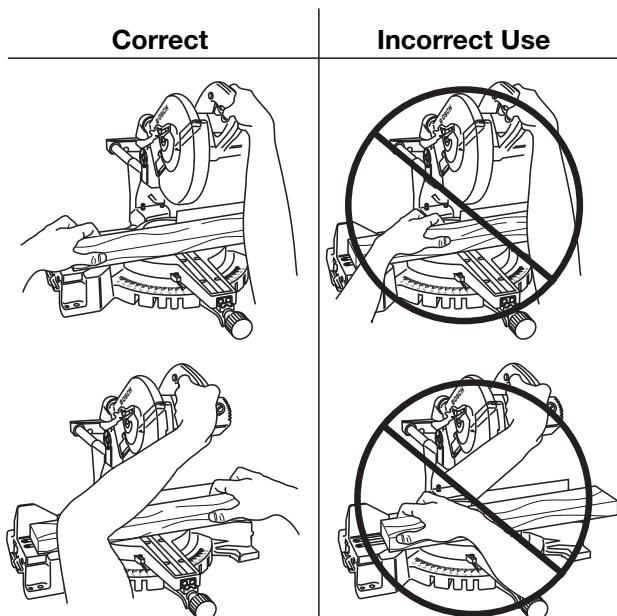

Figure 18. Hand Positions
**! WARNING** Position your body and hands properly to make cutting easier and safer. Observe the following instructions (Figure 18).
- Hold workpiece (outside of the “No Hands” zone) firmly to the fence to prevent movement (Fig 18).